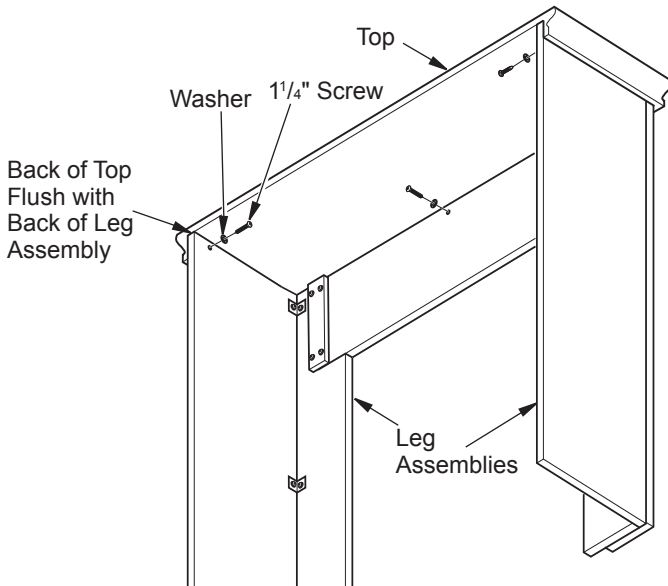

Figure 5 - Attaching Top to Leg and Header Assembly
1. Place mantel top (#7) onto upright leg assembly (see Figure 5). Align back of top with back of sides.
2. Using three 1 ¼" screws with washers, attach top to header/leg assembly (see Figure 5).